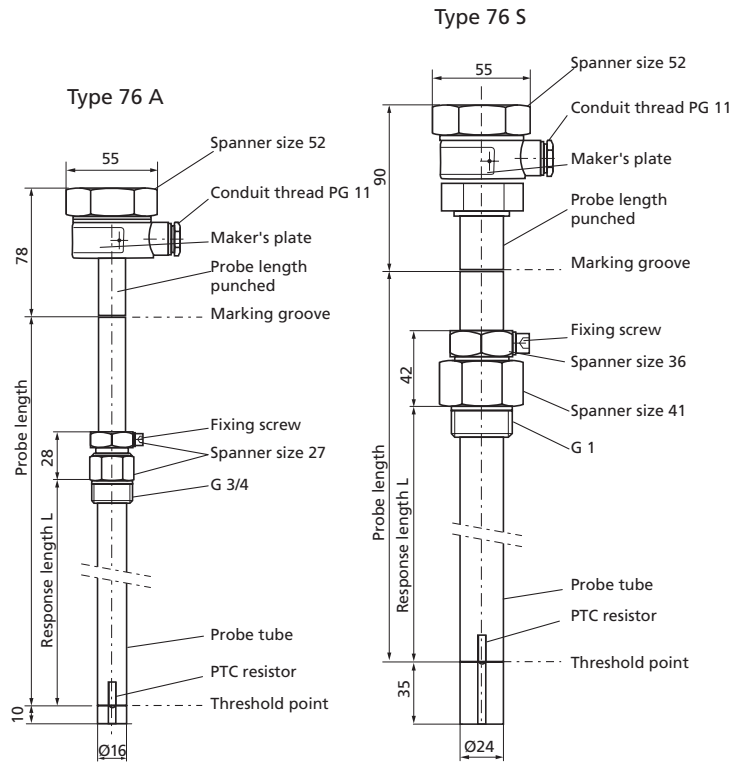

Fig. 2a: Type 76 A and Type 76 S level detectors
The transducer consists of a sensor (encapsulated PTC resistor) and a probe tube which can be adjusted for height with the aid of a clampable screw body (see Figs. 2a/2b and Section 4 "Installation").
The level of the liquid is detected by the encapsulated PTC resistor taking the form of an adjustable resistor at the threshold point of the level detector, the resistance of which is directly proportional to temperature (see Figs. 2a and 2b).
Apart from the standard version (A), Type 76 transducer is also available in other versions (S/W/C/M) (see Figs. 2a and 2b). In addition, all the level detectors can be supplied in two different temperature ranges:
The level detectors have a clampable screw-in body (G 1 and G 3/4) with which the particular response length can be set for the respective tank by sliding the probe tube inside the screw-in body (see Figs. 2a/2b and Section 4 "Installation"). This does not apply to Type 76 M where the probe tube is fixed to the inside of the screw-in body.